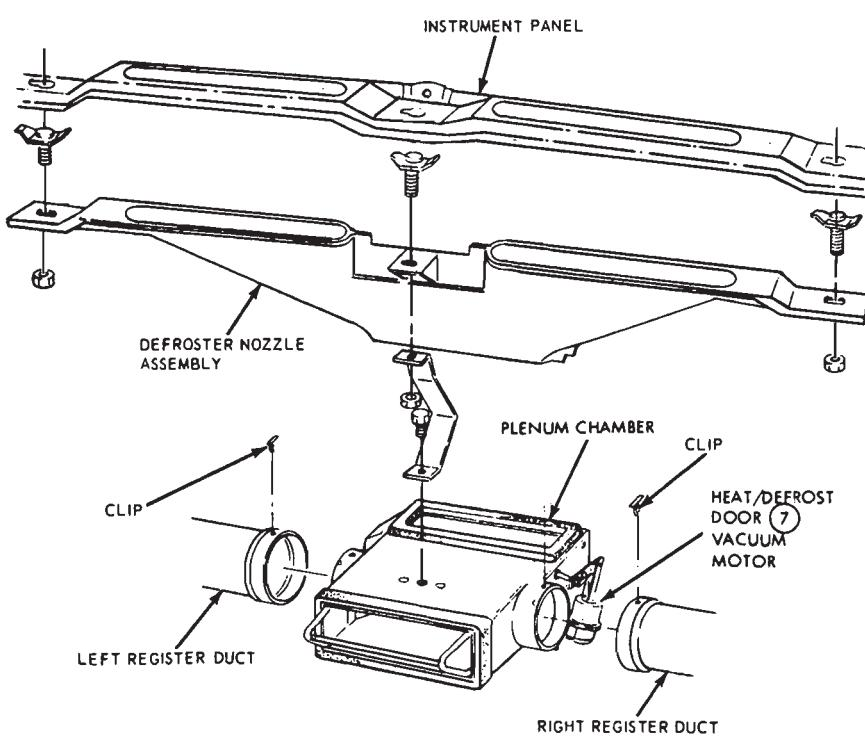

FIG. 48—Defroster Nozzle Installation—Mustang
Remove the plenum chamber. Then, remove three defroster nozzle retaining nuts and remove the defroster nozzle (Fig. 48).
17. Remove the A/C defrost plenum chamber (Fig. 48).